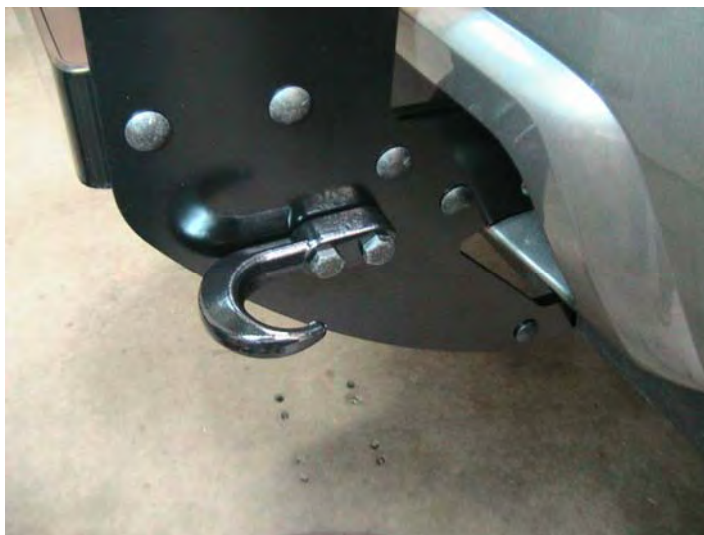

Figure 6 Installing Tow Hooks
19. Install the tow hooks as shown in figure 6, using two ½” x 2” hex bolts, flat washers, lock washers, and hex nuts for each tow hook.